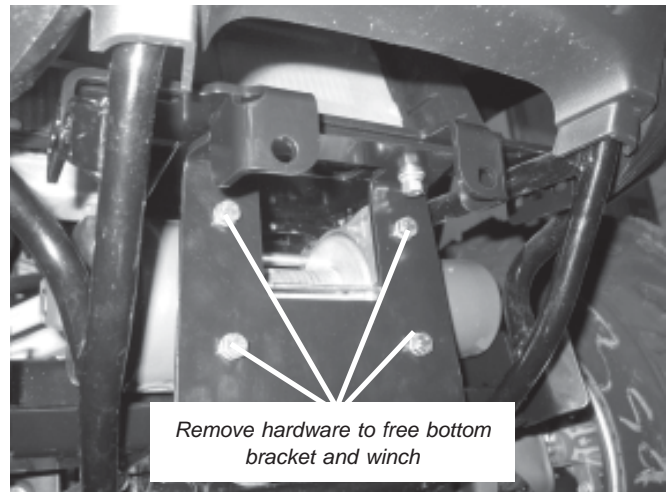

Figure 2
2. Disconnect both cables from winch. Remove hardware to free winch from bottom bracket, as shown in Figure 2. Remove capscrews, which connect top bracket to bottom bracket and the u-bolts at bottom, which connect bracket to vehicle frame. Keep the top mounting hardware and discard the lower hardware as longer u-bolts will be required. Remove winch and bottom bracket from vehicle.